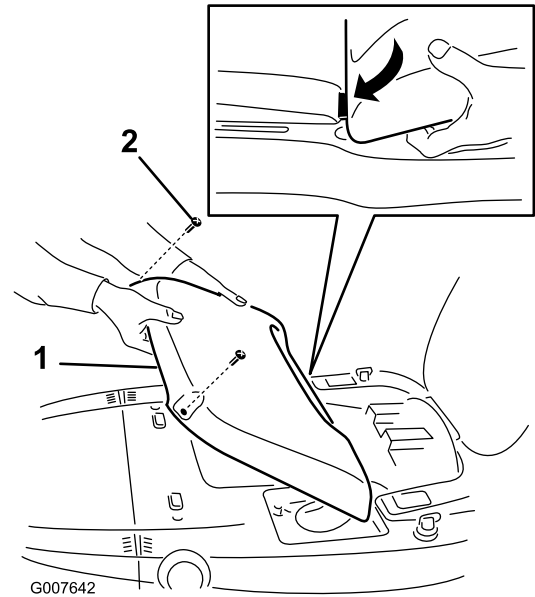

Figure 4
1. Slide the tabs on the engine cover into the slots on the body of the tractor (Figure 4).
2. Secure the cover with 2 screws (M6 x 25 mm) (Figure 4).